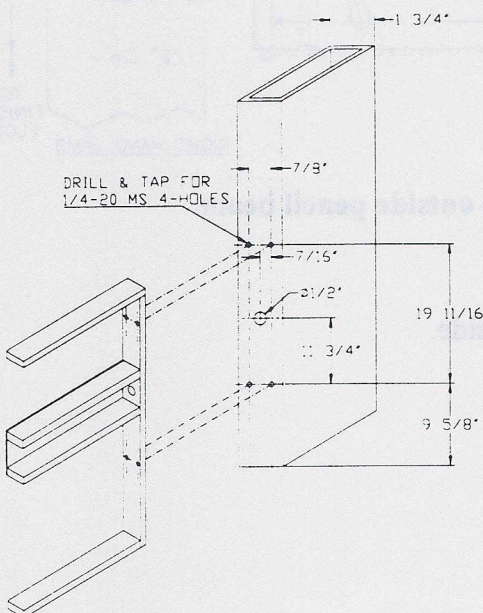

Figure 16: Preparing the jambs for mounting the safety rails.
1. Using Figure 16, prepare the jamb tubes for the mini-safety rails with mounting and electrical access holes. When drilling the $\frac{3}{4}$ " access hole, extreme care should be taken to remove all burrs and sharp corners that could cut or damage the wires.